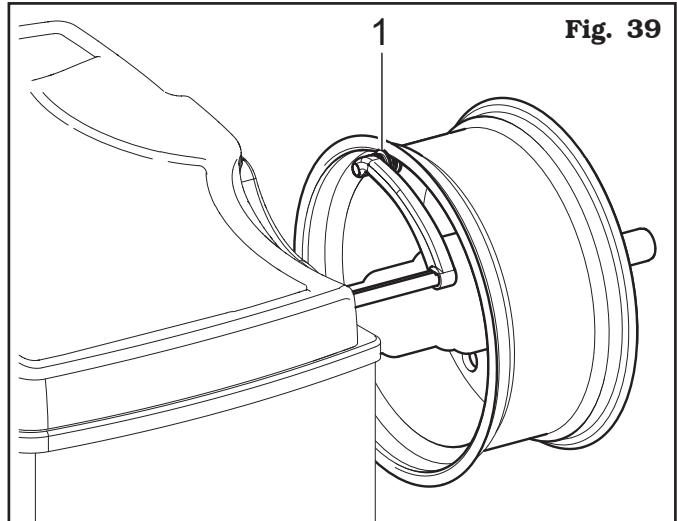

Fig. 39
Place the distance-diameter caliper grippers (Fig. 39 ref. 1) on the inner side of the rim, as shown in Fig. 39.